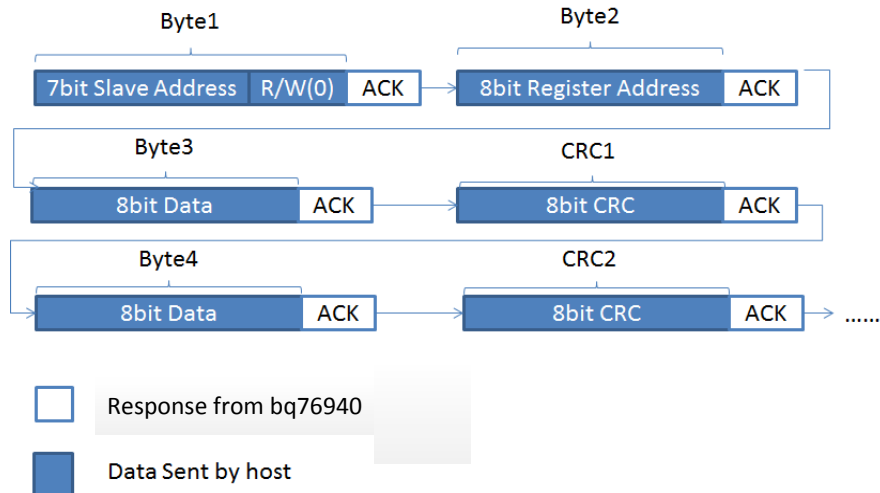

Figure 7. Multiple Bytes Sent to the bq76940 Target Device
In Figure 7, multi bytes are sent to the bq76940 target device, as in single byte transaction, CRC1 is calculated over the byte string from Byte1 to Byte3, afterwards, each CRC byte is only calculated over its successive byte data, that is, CRC2 in Figure 7 is only calculated from Byte4. For a single byte read transaction, the transaction with CRC is like Figure 8. The first CRC1 returned from bq76940 is calculated over Byte3 and Byte4.
- Changed device name to bq76940 in Figure 7. 5